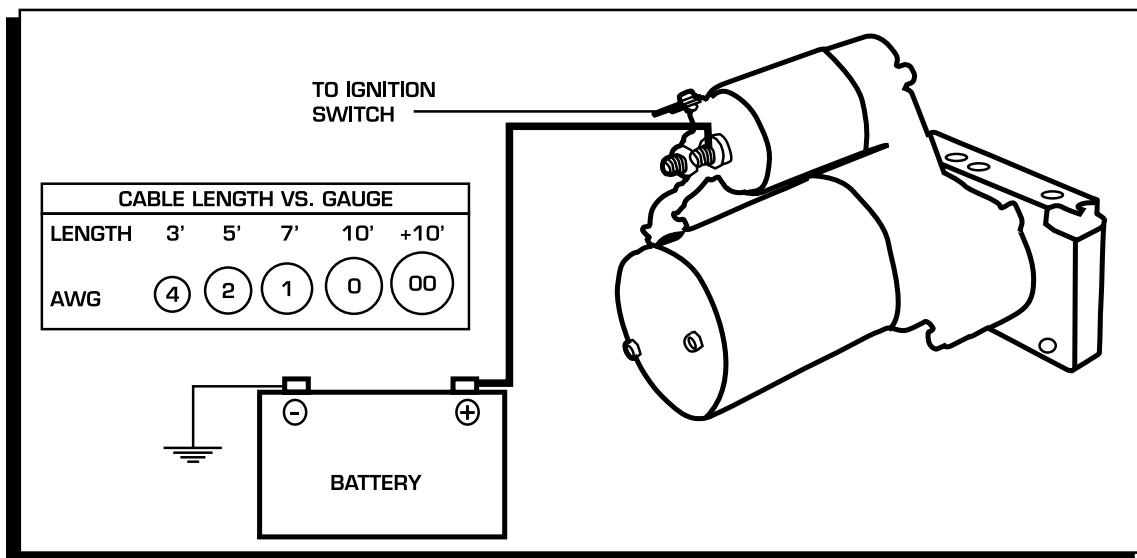

Figure 5 Wiring the Starter.
6. The switch wire that connects to the solenoid should be at least 14-gauge (Figure 5).
7. Attach the battery cable. The size of the battery cable depends on its length. Using the proper gauge wire is important to the operation of the starter. Both the positive and ground wires must be able to meet the demands of the starter. The chart in Figure 5 shows the recommended sizes. Be sure to route the wire away from the exhaust and moving parts of the engine.